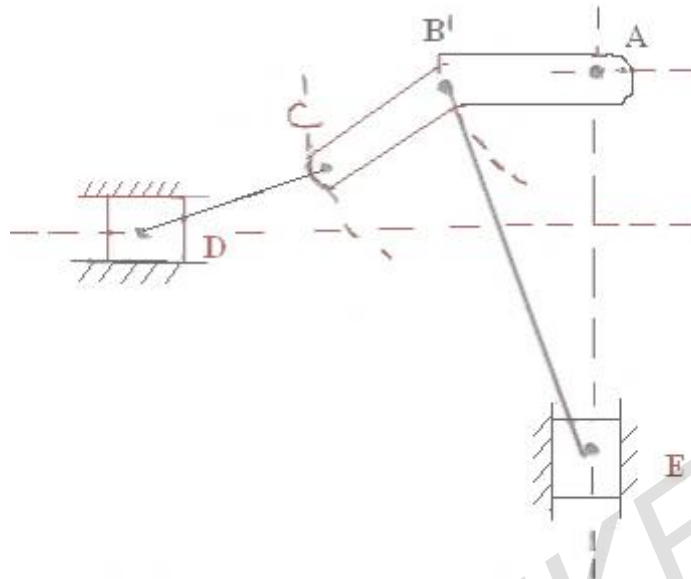

Figure 5
4. Figure 5 shows the mechanism of a pneumatic riveter. The arms AB and BC are each 175 mm long, link BE is 500 mm and link DC is 325 mm long. The centre line of the piston is horizontal and 200 mm below A and AC is vertical, BE makes an angle of 12° with the vertical. Find the velocity ratio between D and the ram E when AC is vertical, and the efficiency of the machine if a load of 2.5 kN on the piston causes a thrust of 5 kN at E. Use instant centre method. [16]